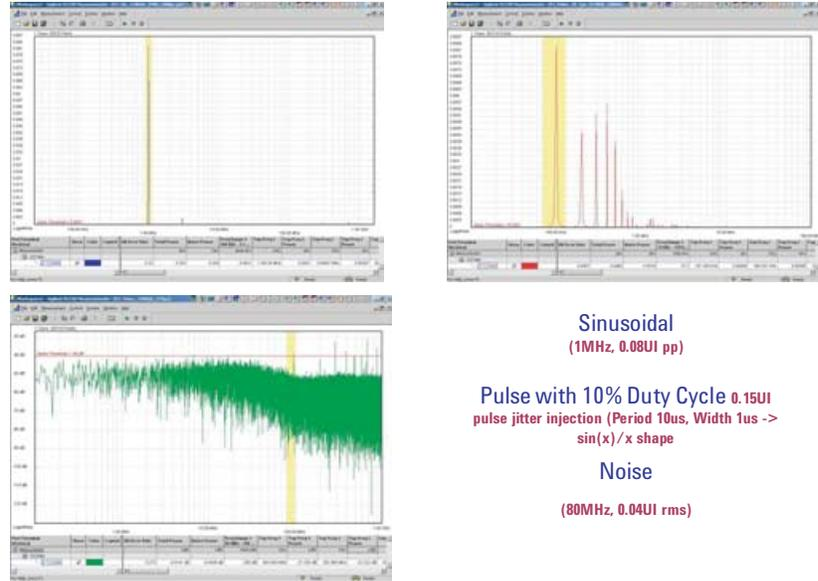

Figure 31: Jitter Decomposition Examples
**Sine Wave:** The graph represents a single line at a single frequency (top left on Figure 31).
**Pulse:** This delivers a spectrum according the  $\sin x/x$  shape (top right on Figure 31).
**Noise:** There is a spectrum of constant energy level up to the bandwidth of the noise source (80 MHz). Then the power decreases to the noise floor of the system (bottom left on Figure 31).